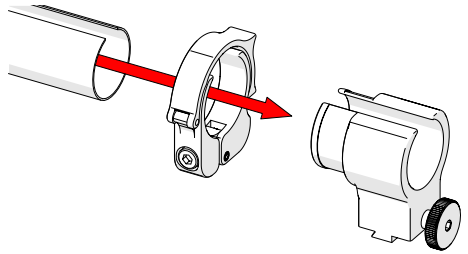

Fig. 154 - Slide tube around mount
2. Slide the clamp around the tube first and then slide the tube around the outside of the cable management dovetail mount (Fig. 154). Align the zipper opening and the cable management dovetail mount opening.